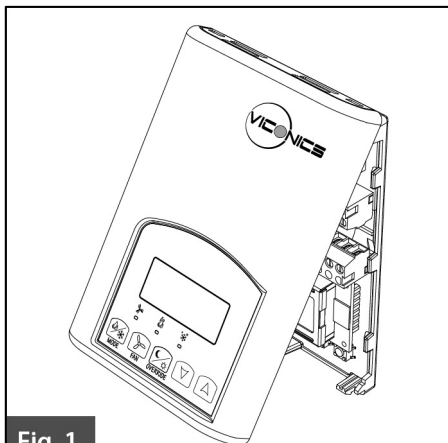

Fig. 1
- Open unit by pulling on the bottom side of Fan Coil Terminal Equipment Controller (Fig. 1).